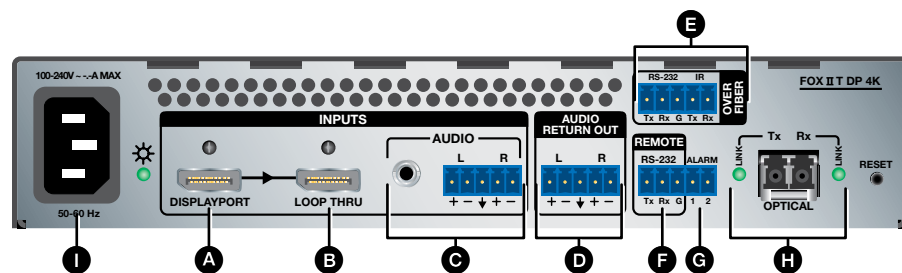

Figure 2. FOX II T DP 4K Transmitter Rear Panel Connectors
- A DisplayPort input port** (see figure 2 on the previous page) — Connect a digital video input to this DisplayPort connector. The transmitter also accepts embedded digital audio on this connector.
H Fiber optic ports and LEDs (see figure 2 on page 6) —